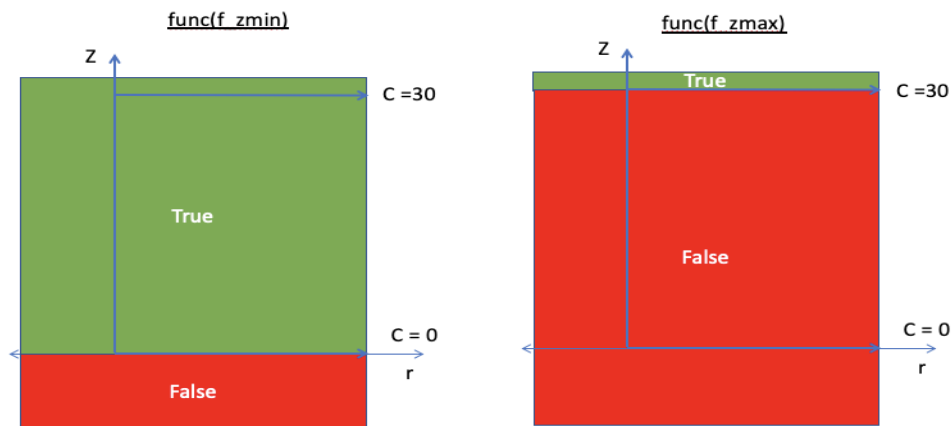

figure 4.
- The result is a slightly confusing function definition in cylindrical coordinates; the z boundaries defined by plane calls. These func calls tend to be more or less boilerplate, where the c-values get changed to match the outer bounds of the problem. So, never changing that block of code will simplify functions. Visually, the two Z boundary functions look like figure 4.